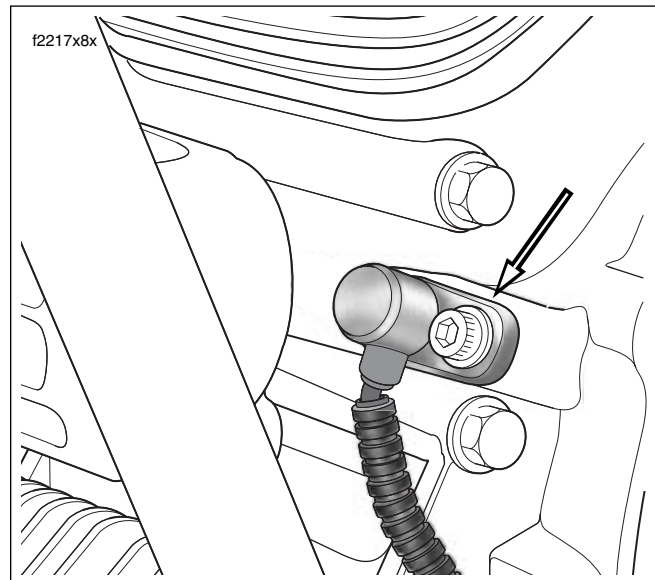

Figure 9-6. Remove Sensor Mount Socket Screw
5. Remove allen head socket screw to free CKP sensor mount from front left side of crankcase. Pull sensor from bore. See Figure 9-6.
2. Push sensor into bore aligning hole in sensor mount with hole in spot face. Install allen head socket screw and tighten to 90-120 **in-lbs** (10.2-13.6 Nm). See Figure 9-6.